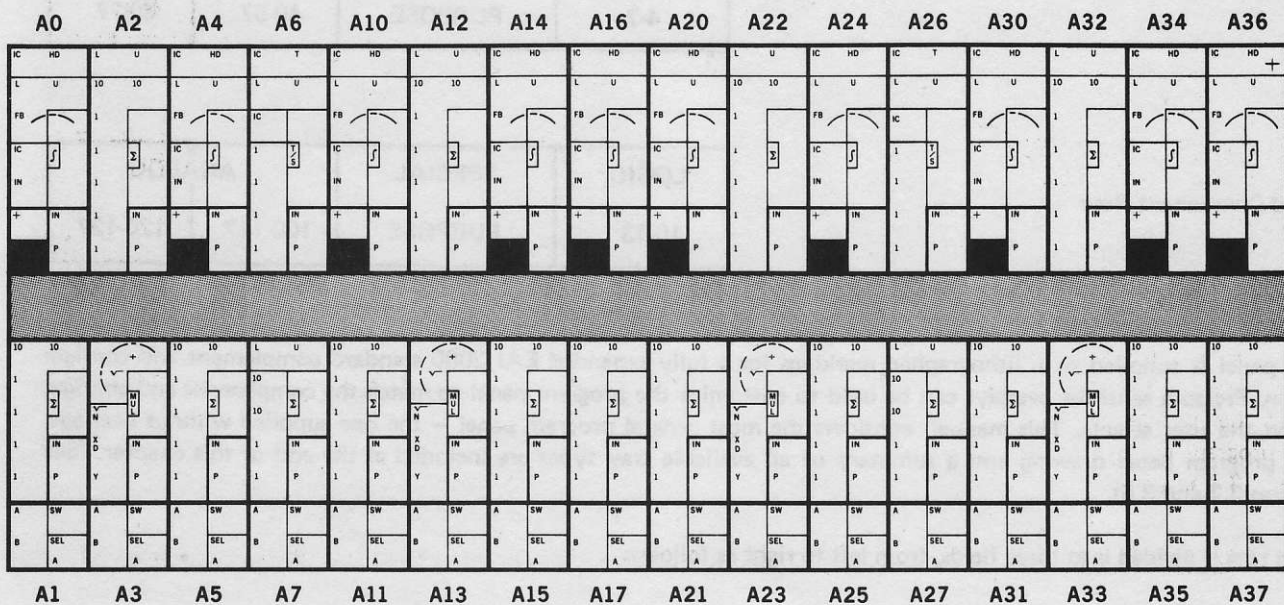

Figure 3.1 The Analog Field of The First Component Row
Each analog field (Figure 3.1) can contain up to sixteen analog trays; each tray terminates two major components, the functions of which are indicated symbolically in black on a white background. For example, the first analog tray has a  $\int$  and a  $\Sigma$ . In addition, every analog tray contains one (1) selector switch and provides terminations for two (2) coefficient units.
As illustrated in Figure 3.1, components in the first component row are numbered 0 to 7, 10 to 17, 20 to 27 and 30 to 37. The address of a component in the second component row is 40 greater than that of the corresponding component in the first row. In the third component row, component addresses are 100 greater than those in the top. This numbering scheme is based on the octal (base 8) numbering system. This same numbering scheme is used for reading the outputs of the various components, using the MACS Command Set. Refer to Chapters 9 and 10. Refer to Chapter 8 for MACS Display definitions.